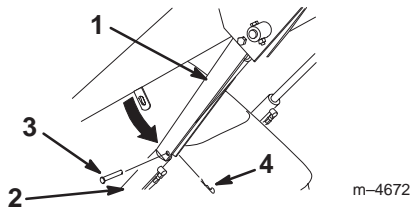

Figure 15
4. Remove the hairpin cotter and clevis pin securing the cylinder lock to the loader arm (Fig. 15)
- Lower the cylinder lock over the cylinder rod and secure it with the clevis pin and hairpin cotter (Fig. 15).
- Rotate the cylinder lock up to the loader arm and secure it with the clevis pin and hairpin cotter (Fig. 15).